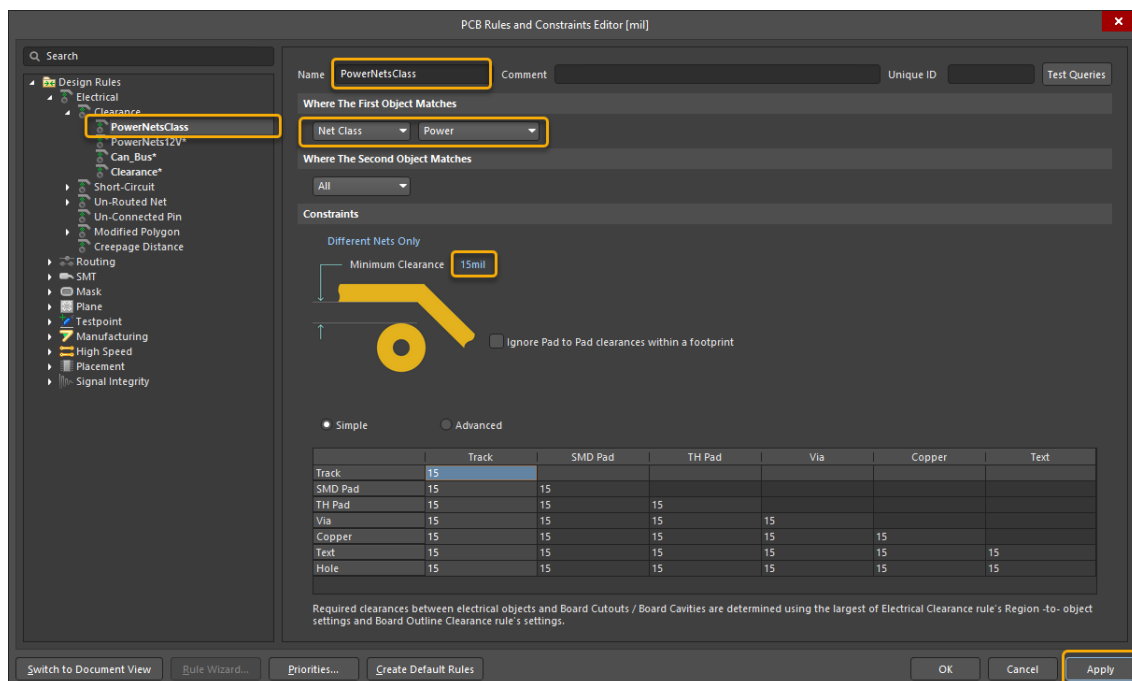

Figure 6. Creating a PowerNets Net Class
22. Assign each field according to Figure 6 below.